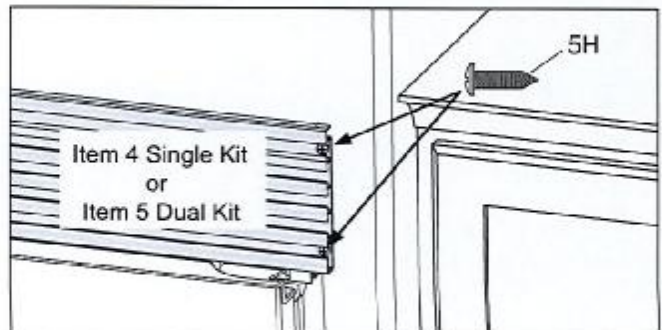

Figure 15.
- a. Slide units into place. Adjust height so top trim height reaches 79.09" (2009mm). Center units in opening and level. (See Figure 15)
- b. Drill 1/8" pilot holes and fasten two (2) screws per side with a Phillips driver to kitchen cabinets.